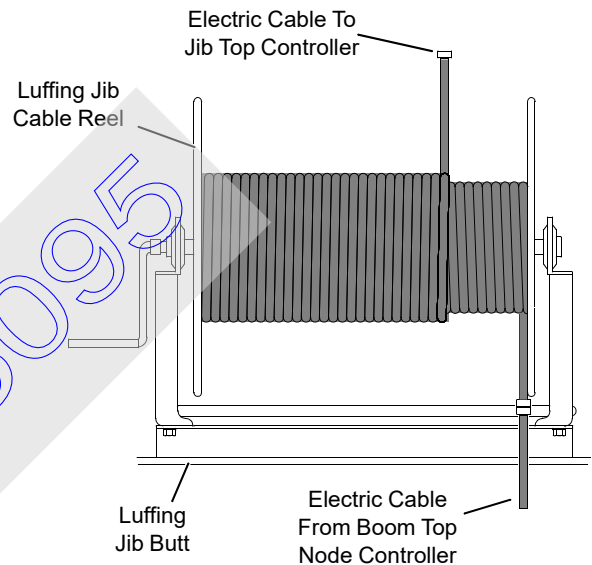

FIGURE 6-7
5. Cable reel in jib butt (Figure 6-7) allows cable to be lengthened or shortened to meet varying jib lengths.